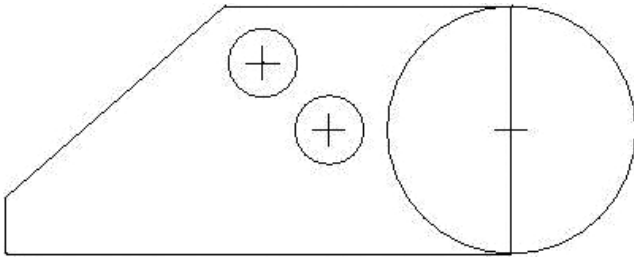

Figure 3-20 Delete Lines and Add Circles
- Step 6:** Use  to draw a circle on the right end as shown in Figure 3-20. Also, draw two circles in the interior of the figure. Draw the first circle at the same horizontal position as the big circle, then draw a second circle the same size as the previous circle centered up and to the left of it as shown. *Press* MMB to terminate this command.